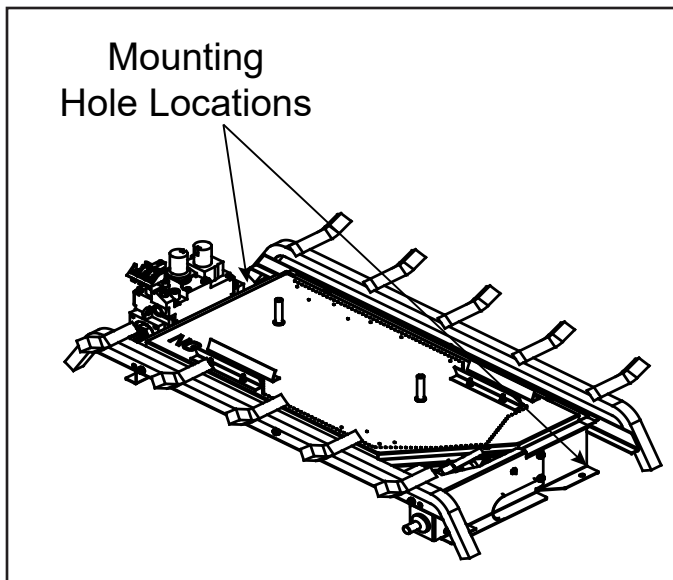

Figure 9.1 Mounting Holes
4. Once the appliance is positioned correctly, side to side and front to back, mark the mounting hole positions on the fireplace floor. See Figure 9.1 for mounting hole locations.
5. Drill (2) 5/32" diameter holes approximately 1-1/2" deep.